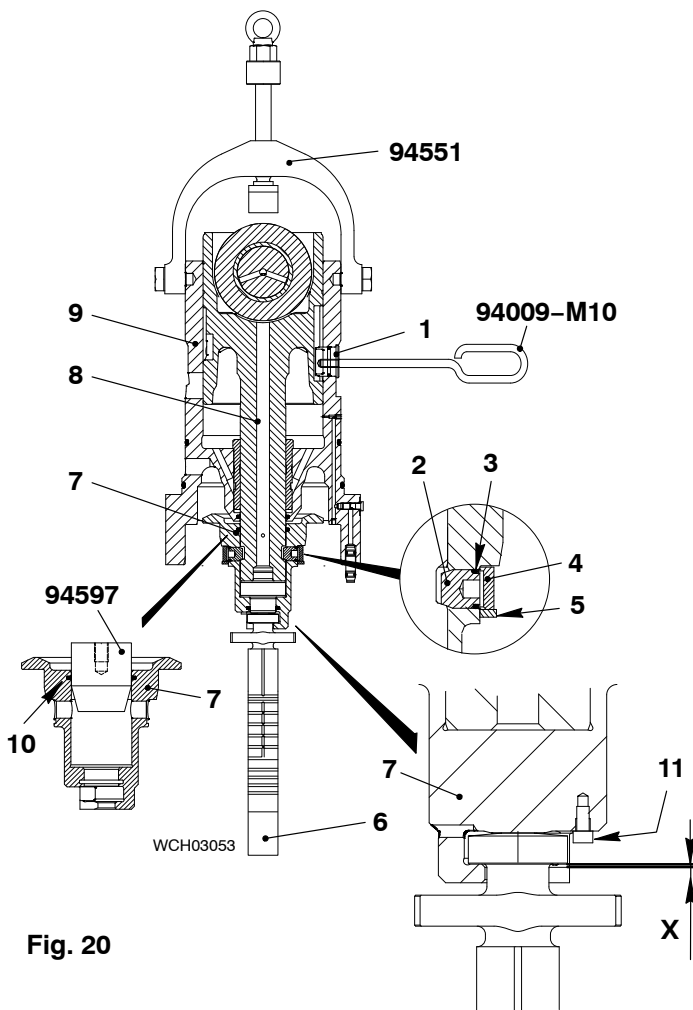

Fig. 20
- 1) Attach the spindle press (94551) to the bottom housing (9, Fig. 20).
- 2) Put a new O-ring on the guide pin (1).
- 3) Put the assembled guide piston (8) in the bottom housing (9). Make sure that the groove in the guide piston aligns with the bore in the bottom housing.
- 4) Use the handle (94009 M10) to install the guide pin (1).
- 5) Use the mandrel (94597) to install a new seal (10) to the bottom spring carrier (7).
- 6) Put the bottom spring carrier (7) in position on the guide piston (8).
- 7) Put new O-rings (3) on the connection pins (2).
- 8) Put the two connection pins (2) through the bores in the top spring carrier. Make sure that the connection pins engage with the groove in the guide piston (8).
- 9) Attach the retaining rings (4) to the connection pins (2).
- 10) Attach the circlips (5) to hold the connection pins (2) and the retaining rings (4) in position.